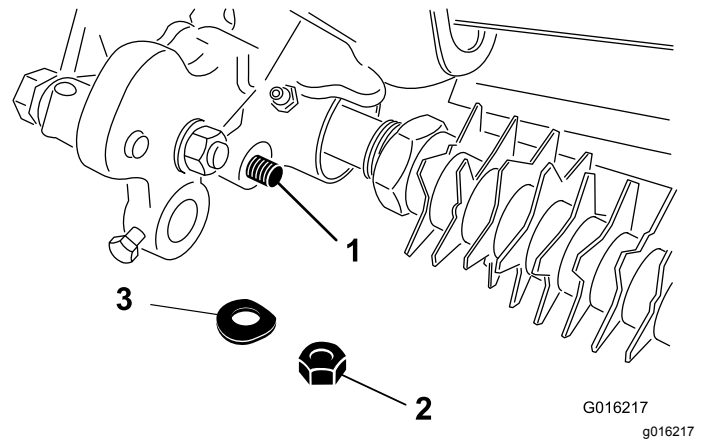

Figure 13
29. Secure the adjuster arm assembly rod end to the groomer drive assembly with a Belleville washer and locknut (Figure 13).
34. Secure the adjuster-arm assembly rod end to the groomer drive assembly with a Belleville washer and locknut (Figure 13).